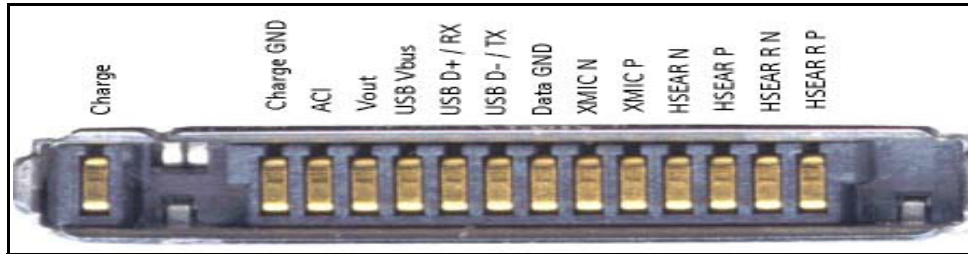

Figure 48: System connector
Figure 48 provides a mapping for the system connector. The 6265/6265i/6268 supports Pop-port™ and Universal Headset accessories, differential and single-ended, respectively. Detection of the Pop-port™ accessories is done through the ACI signal where the Universal Headset is detected on TIKU_GenIO (4).